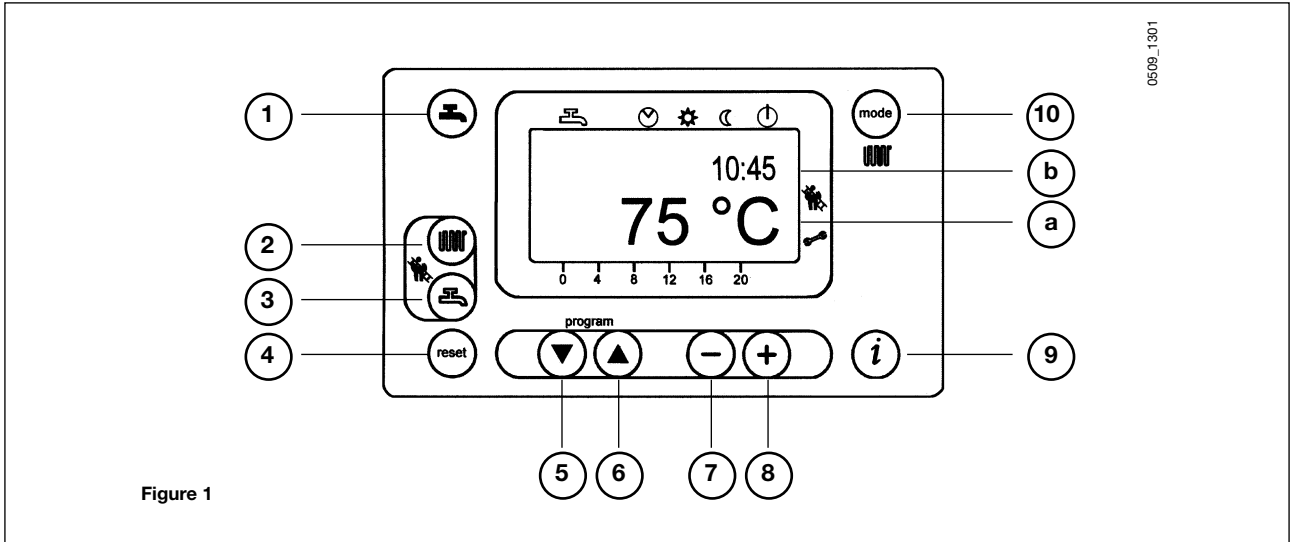
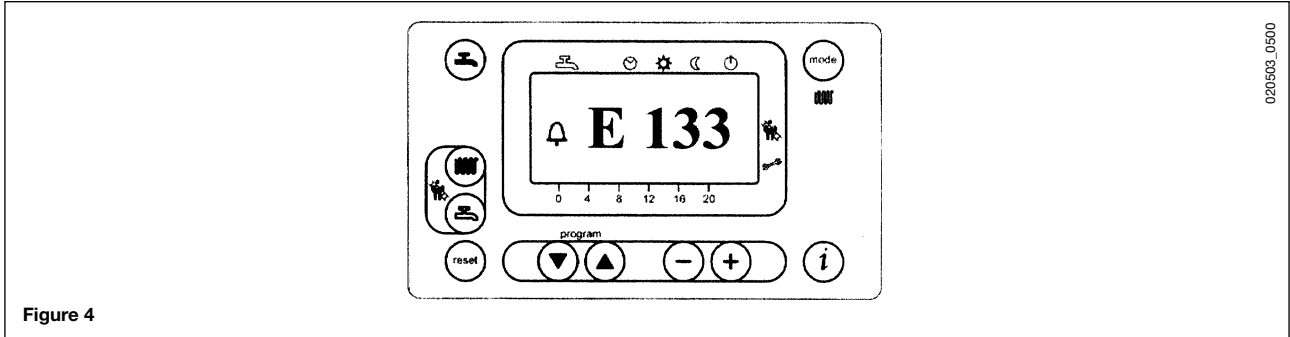

Figure 1
Figure 4
- Press the H key (2-figure 1) to set the central heating water temperature;
- press either of the H mode keys (1 or 10 - figure 1) to save and return to the main menu.
NOTE – With the outdoor sensor probe connected, the H key (2 - figure 1) can be used to shift the central heating curve. Press the $-$ $+$ keys to decrease or increase the room temperature in the premises to be heated.
- Press the H key (3-figure 1) to set the maximum domestic hot water temperature;
The fault warnings appear on the main display (figure 1 a) together with the  symbol (Figure 4).
Fault warnings appear on the secondary display (figure 1 b) alternating with the time, both of them flashing (figure 4.1). It is not possible to reset malfunction warnings which appear on the secondary display as the cause of the alarm has first to be removed.